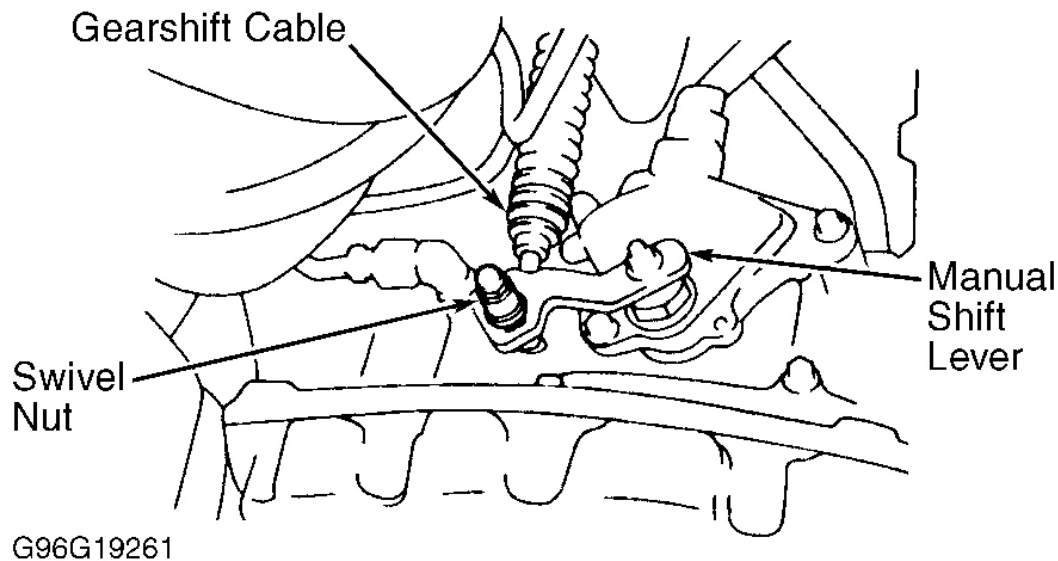

Fig. 10: Adjusting Typical Gearshift Cable
1. Apply parking brake. Loosen swivel nut on manual shift lever on side of transmission. See **Fig. 10** . Rotate manual shift lever counterclockwise (downward) toward the oil pan to the Park position.